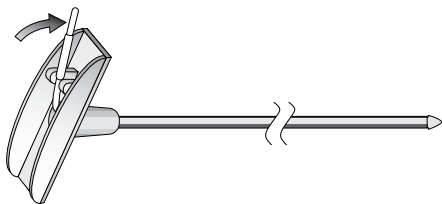

Figure 8. Snap the obturator into the handle.
2. Snap the proximal end of the obturator into the handle by folding the obturator down and pressing it into the groove in the handle (Figure 8).